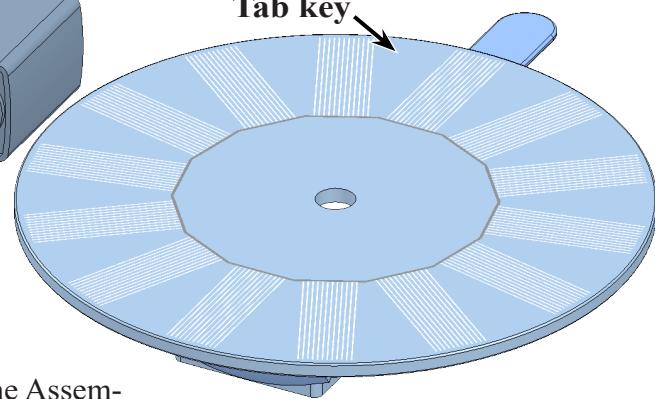

Fig. 6
Step 1. **Hide SOLAR PANEL**  part, **Fig. 6**. To hide, move the cursor over the component in graphics area and press **Tab** key to hide. The Solar Panel will stay hidden to the very end of assembly.
Step 4. Click to place Pump, **Fig. 6**.